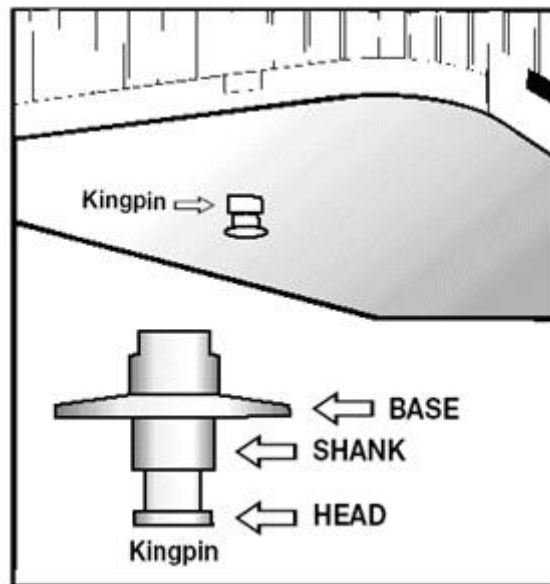

Figure 6-8
- Locking jaws around the shank, not the head of kingpin. See Figure 6.8.